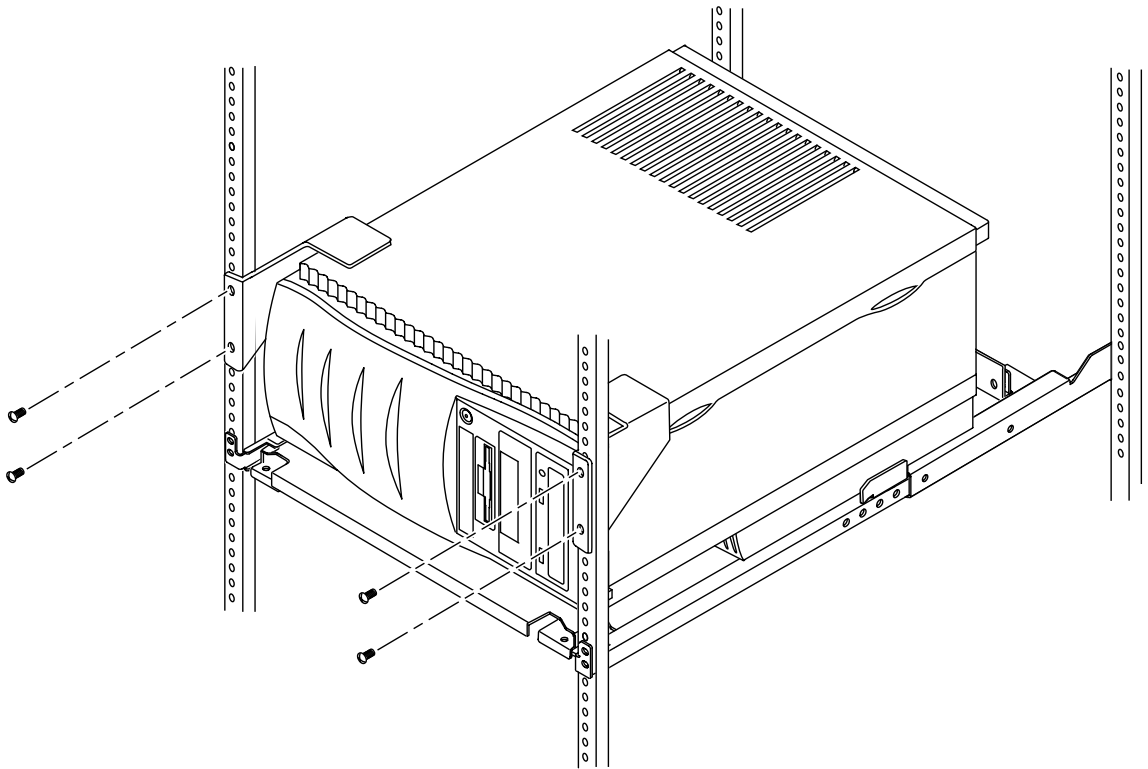

FIGURE 22 Fastening the Front Brackets
6. Using two of the provided screws, fasten the left front bracket to the rack (FIGURE 22).
8. Using two of the provided screws, fasten the right front bracket to the rack (FIGURE 22).